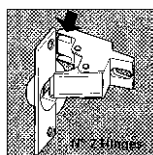

Fig. 2
- Insert the nib of the hinge (indicated by the arrow in Fig.2) into the hole for the hinge and push the panel towards the front of the machine. Fasten the two hinges with the type D screws.